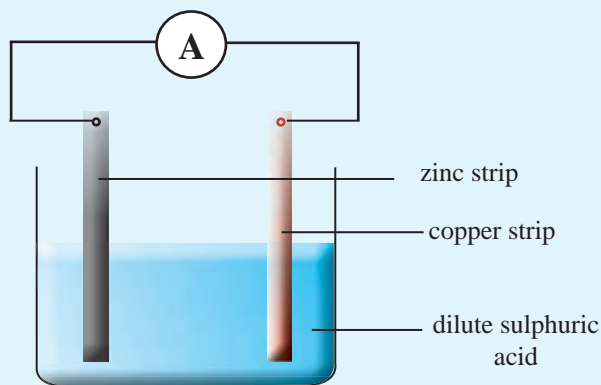

Figure 12.1.4
**Method** :- • Connect the zinc strip and the copper strip to the Ammeter using connecting wires as shown in the Figure 12.1.4. Then immerse the two metal strips in the beaker containing dilute sulphuric acid. Record your observations.